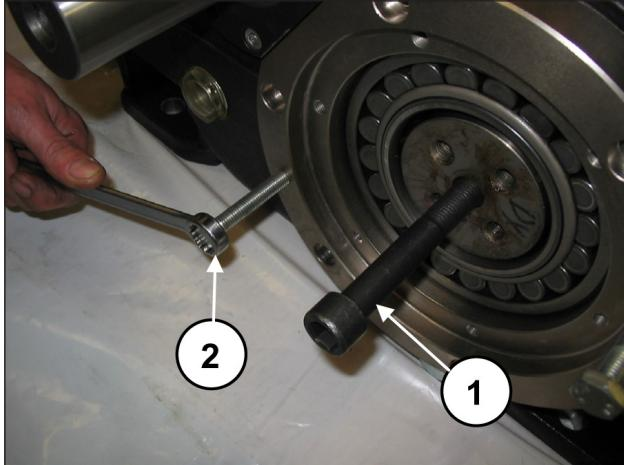
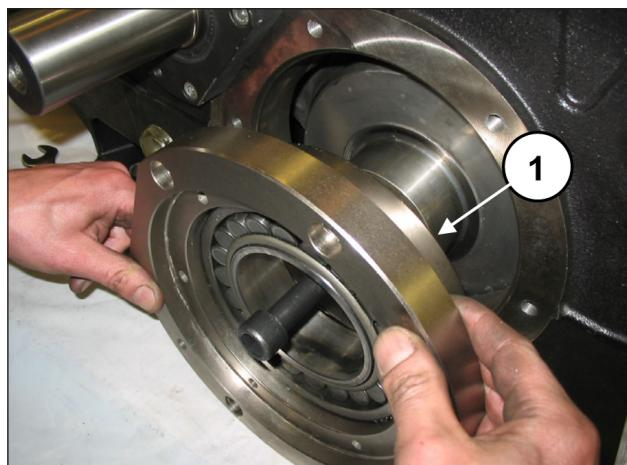

Fig. 23
Fig. 24
Apply an M16 threaded pin to one end of the bend shaft (pos. ①, Fig. 23) and, while keeping it raised, take out the bearing support cover complete with bearing and O-ring (pos. ①, Fig. 24). To help with their removal, use 2 x M10 grub screws or screws (pos. ②, Fig. 23) as extractors.